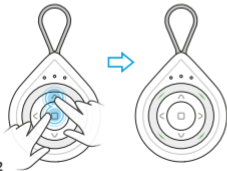

Fig. 9.2
2. Simultaneously press and hold STOP and UP button until the LEDs light green (Fig. 9.2).